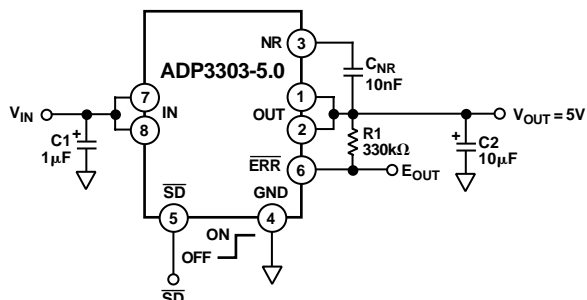

Figure 21. Noise Reduction Circuit
A noise reduction capacitor (C_{NR}) can be used to further reduce the noise by 6 dB–10 dB (Figure 21). Low leakage capacitors in the 10 nF–100 nF range provide the best performance. Since the noise reduction pin (NR) is internally connected to a high impedance node, any connection to this node should be carefully done to avoid noise pickup from external sources. The pad connected to this pin should be as small as possible. Long PC board traces are not recommended.